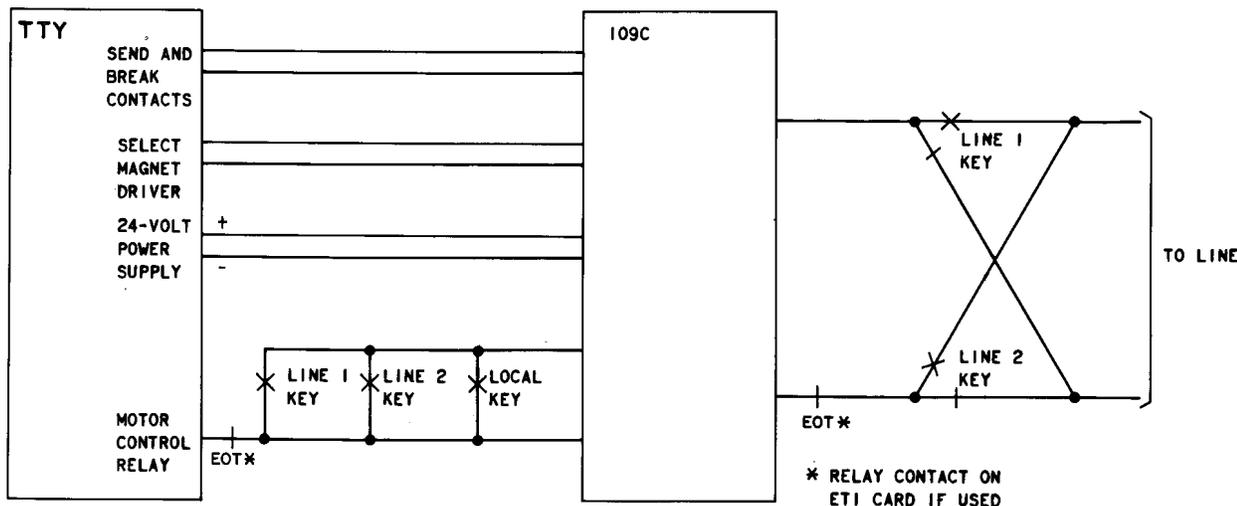

Fig. 9—Data Set 109C-L1/2 Dual Access, Data Line Concentrator System Major Switching Functions
4.01 When used for data line concentrator (DATREX) service, Data Set 109C-type is arranged as shown in the simplified block diagram (Fig. 9). Table B lists the key and lamp positions, designations, and functions for this application.
4.04 LINE 2 (Used in dual access only): When the LINE 2 button is depressed, the LINE 2 lamp is lighted, the motor control relay is operated via the interface lead to the TTY, and the data set is connected to the metallic loop with the connection to tip and ring reversed (see Fig. 9). The concentrator senses this reversal of polarity, and proceeds as described for LINE 1, except the data set is connected to trunk group B.